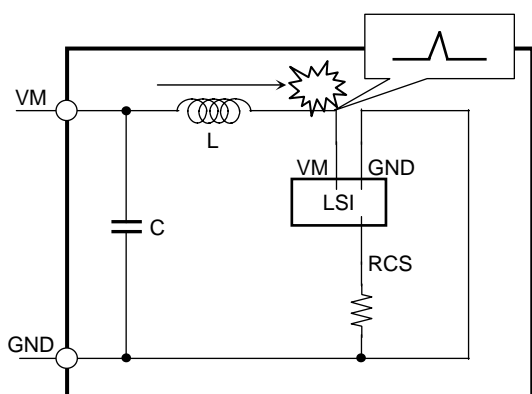

Figure 3. Non-recommended pattern
A high current flows into the line between the VM1(Pin 8) and VM2(Pin 22). Therefore, noise is generated with ease when switching at the inductance (L) of the line, which may result in the malfunctioning or destruction of the LSI (Figure 3).